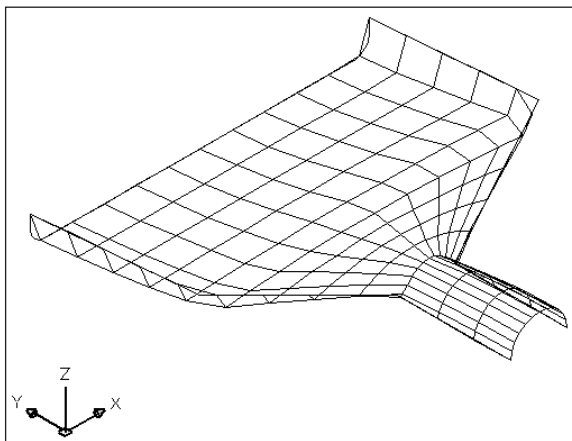

Figure 23-38: The completed dustpan – or starship
6. Save your drawing. It should look like Figure 23-38. It's either a dustpan or a starship—your choice.